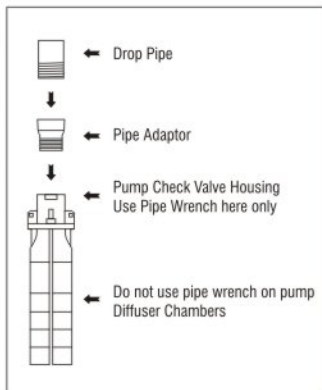

Fig. 3
**CAUTION: Do not use pipe wrench on pump shell. Use only on pump check valve housing flats ( see fig.3).**
It is recommended to first install the delivery pipe to the pipe adaptor. Then install the delivery pipe with the adaptor to the pump check valve housing as shown in fig.3.